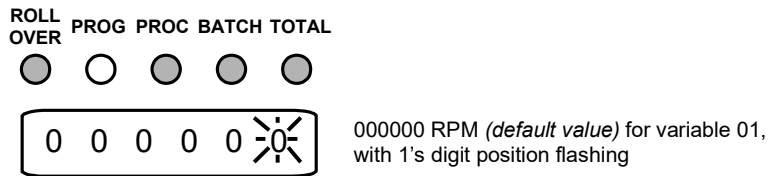

Figure 12: Data for Variable 01
2.	Press the ENTER key to go to the data-entry level; the display will show 000000, the (default value) for variable 01, Input Mode, with the 1's digit position flashing. See Figure 12 for a pictorial of this step.